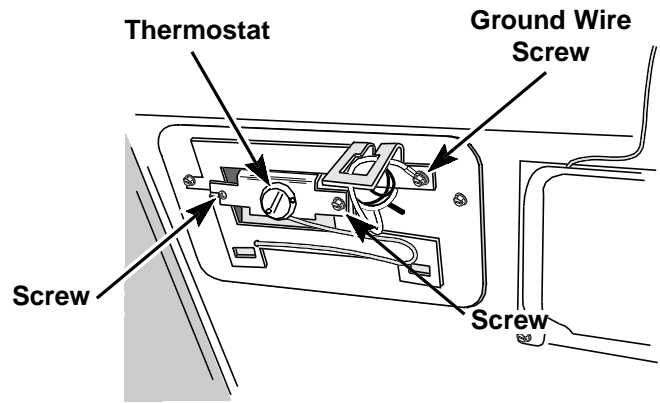

Fig. 17
2. Remove the one (1) screw securing the control box cover to the control box assembly and remove the control box cover.
3. Remove the two (2) screw securing the thermostat to the mounting bracket and the one (1) screw securing the ground wire to the mounting bracket. (Fig. 17)